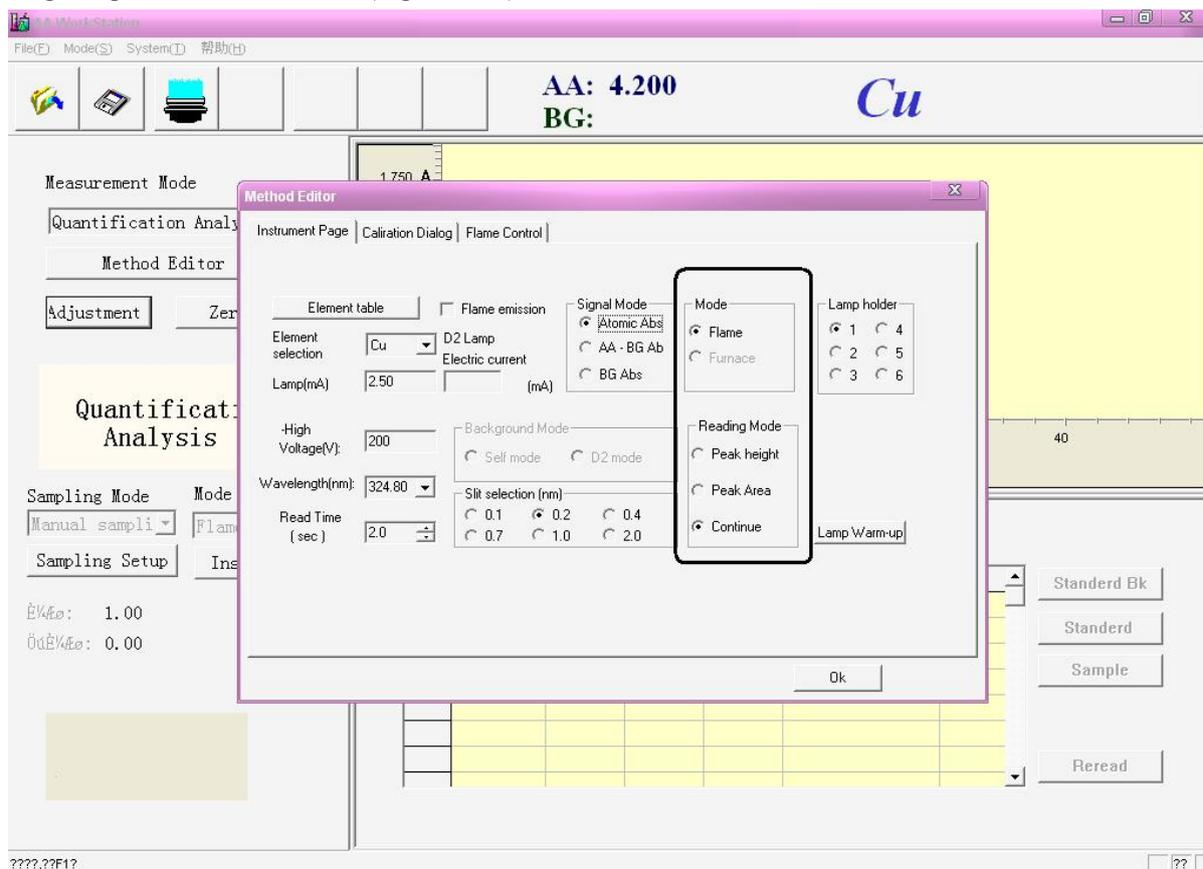

Figure 4-30
16. "Reading Mode". according to different test you can select one among the three modes—"peak height", "peak area", "continue" (Figure 4-30)